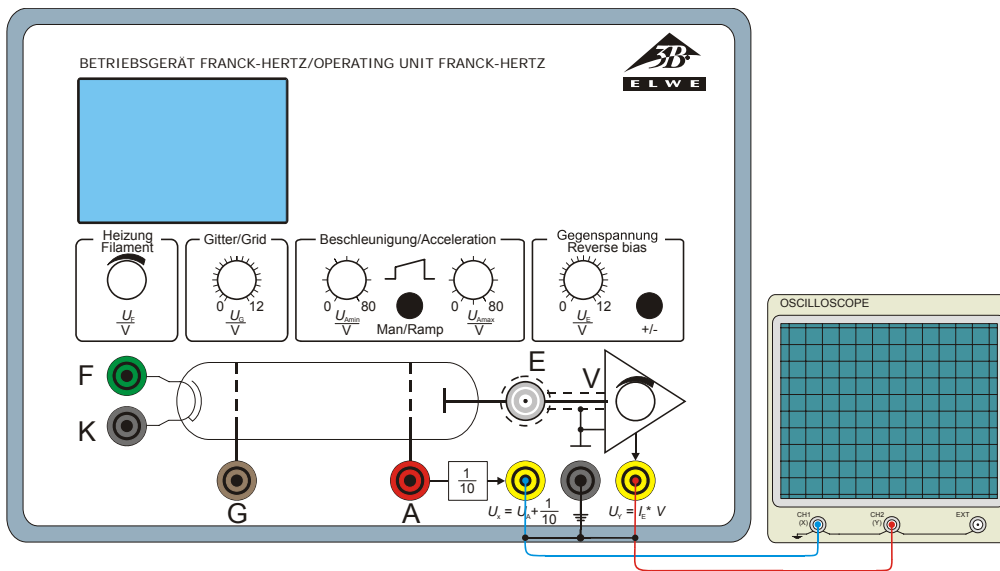

Fig. 7 Connection of oscilloscope to the control unit for the Franck-Hertz experiment
- Connect the  $U_x$  output of the control unit to Channel 1 (X deflection) of the oscilloscope and output  $U_y$  to Channel 2 (Y deflection) (see Fig. 7).